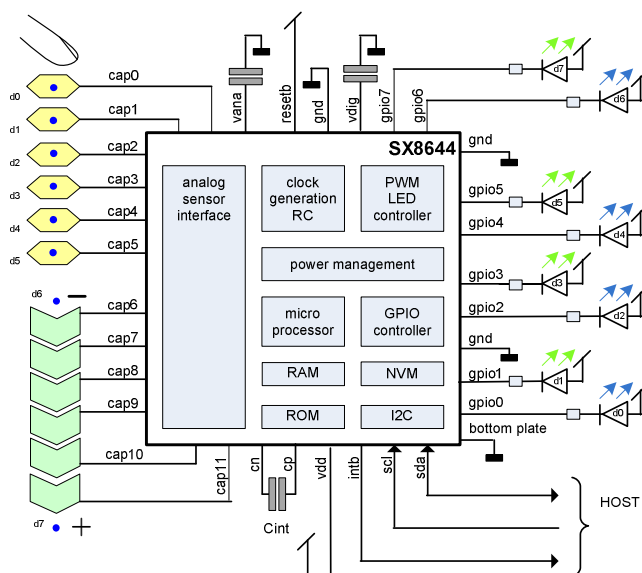

Figure 1: SX8644 Typical Application
c) Integration capacitor C_{int} (see Figure 1) must be placed as close as possible to the chip and as far as possible from noisy signals